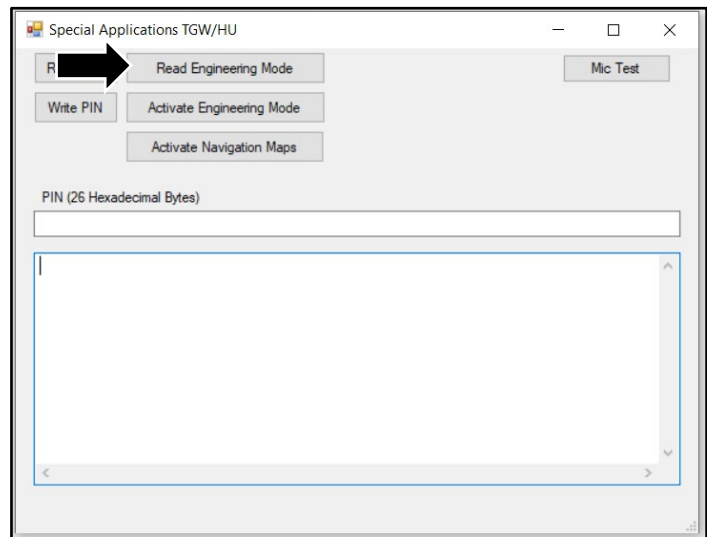

Figure 15
27. Select 'Read Engineering Mode' (refer to Figure 15).